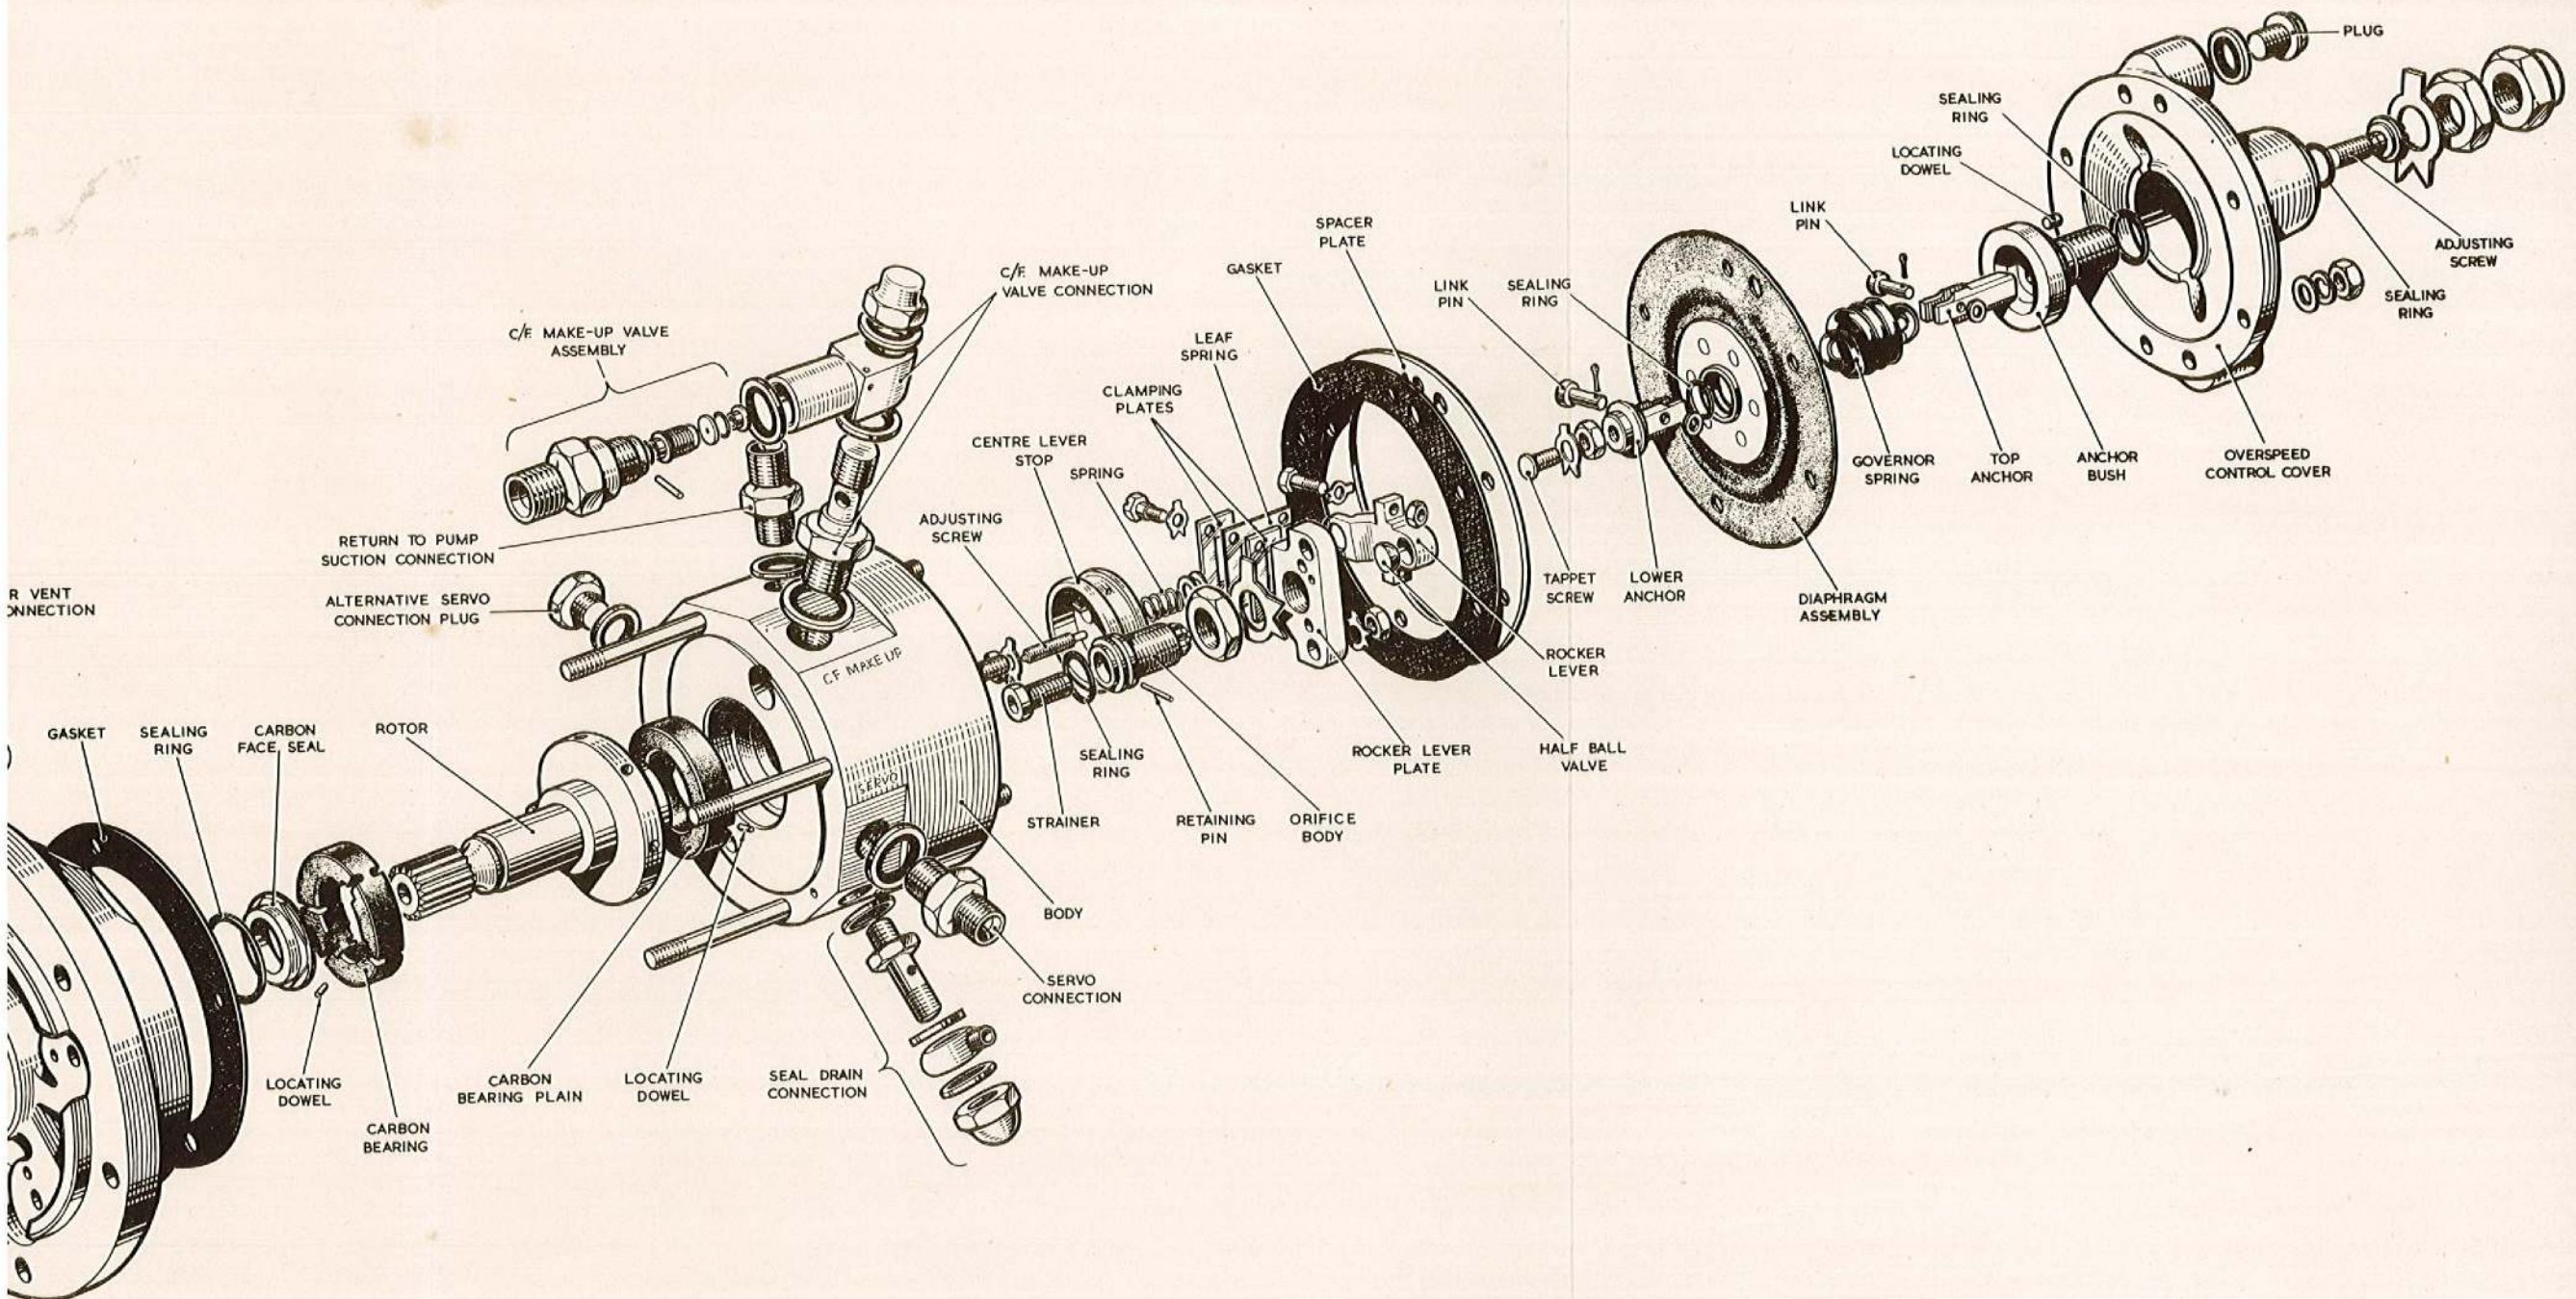

Fig. 11 Dismantled view of unit
77. Reference must be made to the calibration values listed in the appendix and to fig. 11.